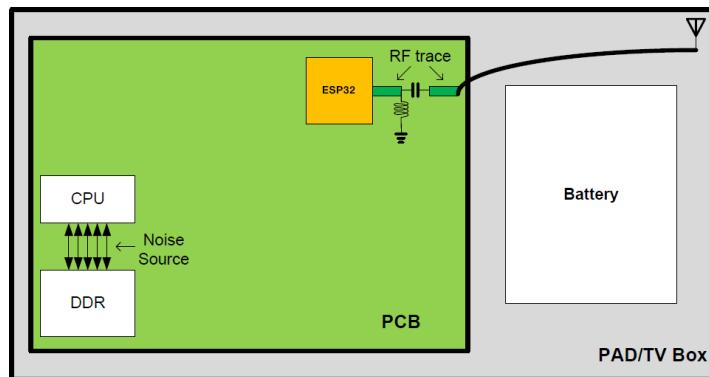

Figure 15: PAD/TV Box Layout
- As can be seen in Figure 15, ESP32 should be placed near the edge of the PCB and away from the CPU and DDR, the main high-frequency noise sources. The distance between the chip and the noise sources decreases the interference and reduces the coupled noise.